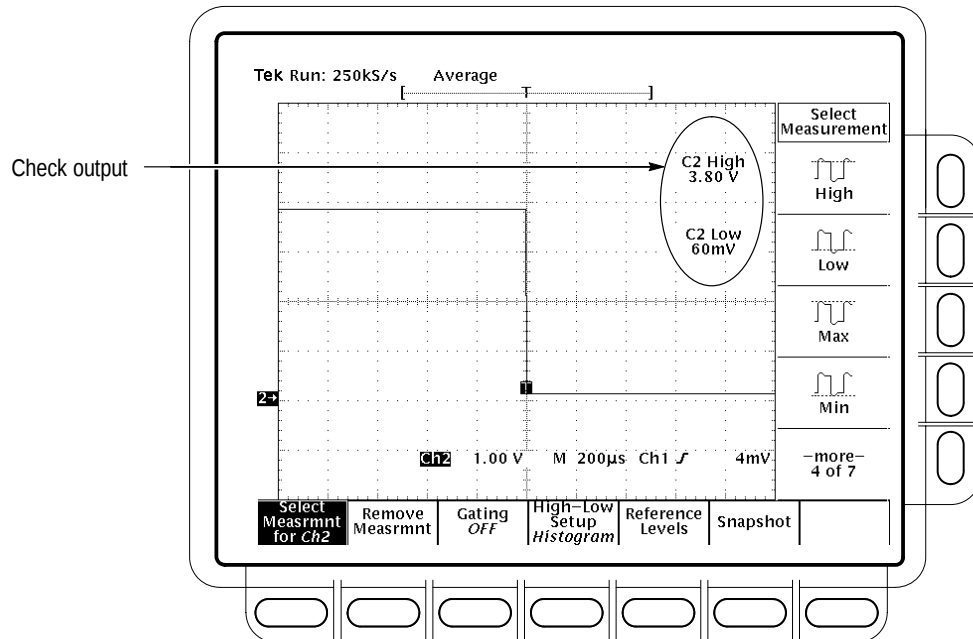

Figure 4-21: Measurement of main trigger out limits
d. *Check Delayed Trigger output against limits:* See Figure 4-21.